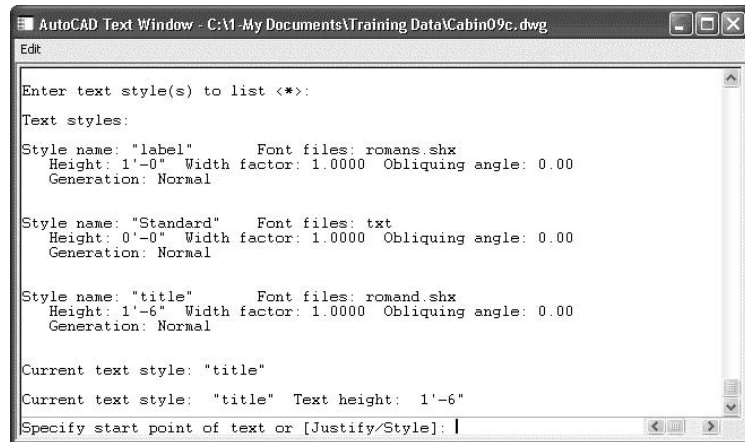

FIGURE 10.6: The text screen listing the defined text styles
3. Type ?↵ to see a list of defined text styles. In the text screen, you see Label, Standard, and Title listed along with information about the parameters of each style (see Figure 10.6). At the bottom of the text screen, you can see the Dtext prompt again.